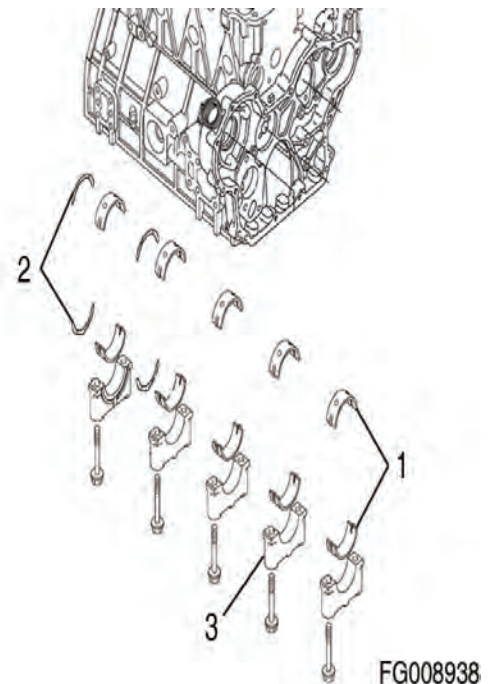

Figure 214
2. Reinstall new bearing inserts (1, Figure 214) and thrust bearing (2, Figure 214) in the cylinder block and main bearing caps. Apply a liberal coat of clean engine oil to the bearings and crankshaft journals.
4. Reinstall the main bearing caps (3, Figure 214)